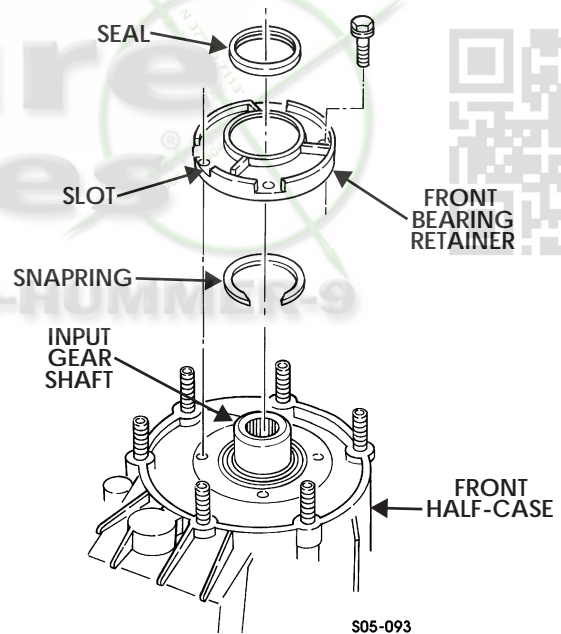

Figure 5-146: Front Bearing Retainer
40. Remove four screws and front bearing retainer from front half-case. Pry on front bearing retainer slots only (Figure 5-146).